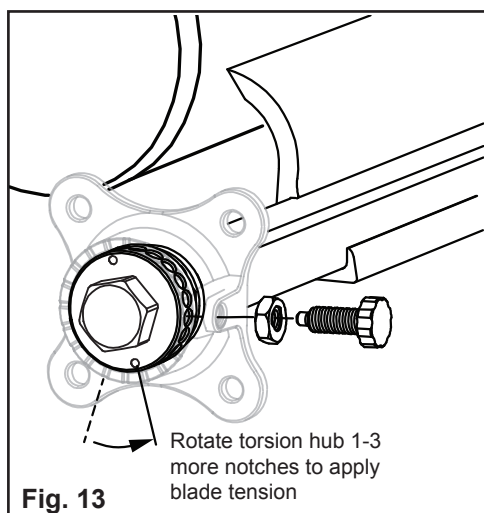

Fig. 13
20. Rotate the Torsion Hub farther to the desired number of notches for tension pre-set. One to three notches is a typical pre-set tension (Fig. 13).